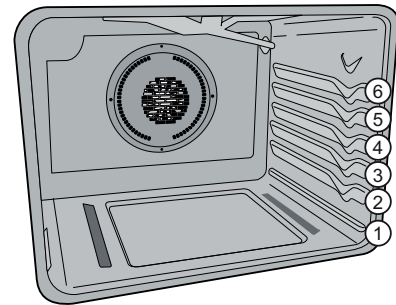

Figure 14: Rack positions for baking
- For best results when baking cakes using two oven racks, place racks in positions 3 and 5 (See Figure 14).